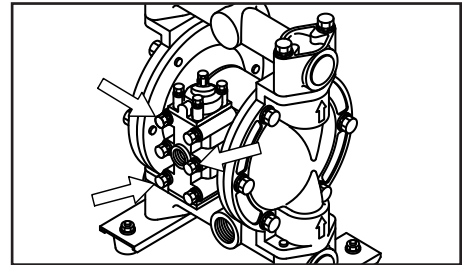

Figure 26
- Remove the 6 retainer bolts from the valve body and remove the valve body (See Figure 26).